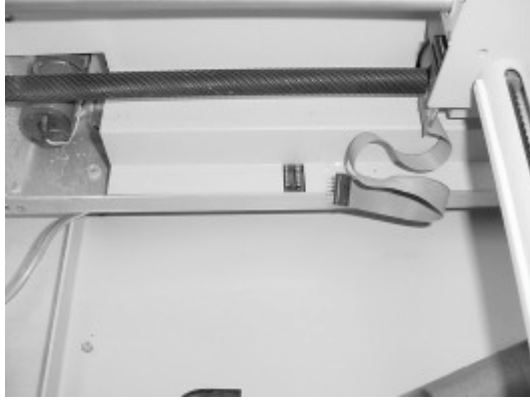

Figure 1-11.
9. Remove panel completely. Now remove ribbon cable from main board (Figure 1-11).